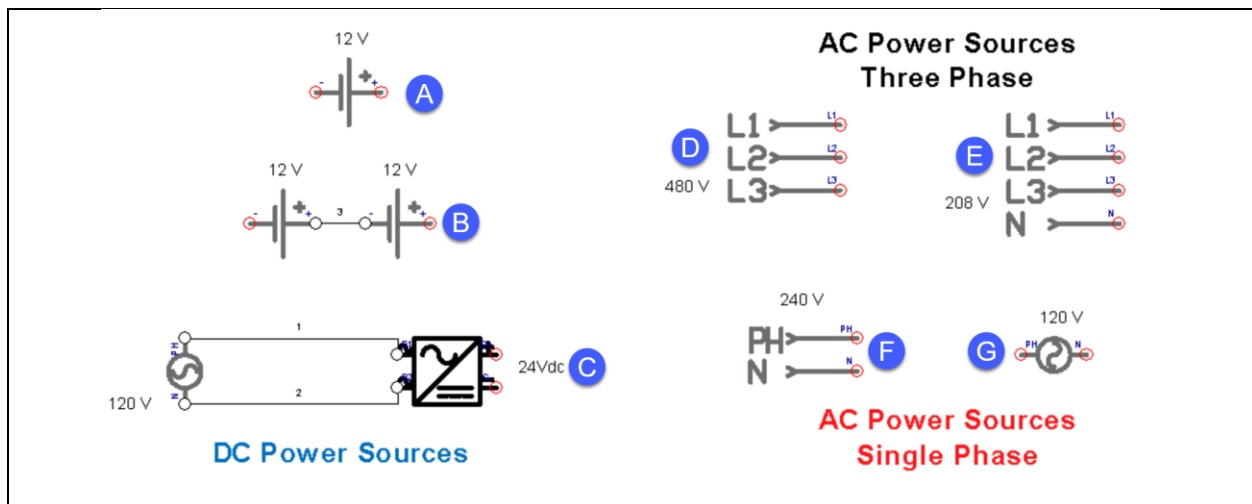

Figure 9. The Power Sources document.
2. Figure 9 shows the various DC & AC power sources. Use the Multimeter to measure the following DC voltages: